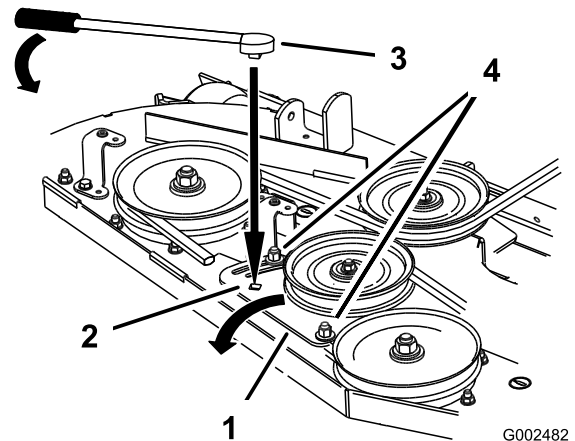

Figure 52
5. If adjustment is required, loosen the mower idler plate and adjust it (Figure 52).
6. Insert a ratchet or breaker bar into the square hole in the mower idler plate to adjust the tension (Figure 52).
7. To increase belt tension, rotate the mower idler plate until resistance is felt and rotation stops. Do not go past when it stops (Figure 52).
8. Tighten the idler plate bolts (Figure 52).
- Adjust the belt tension and the idler plate, if necessary, and tighten all hardware securely (Figure 52).